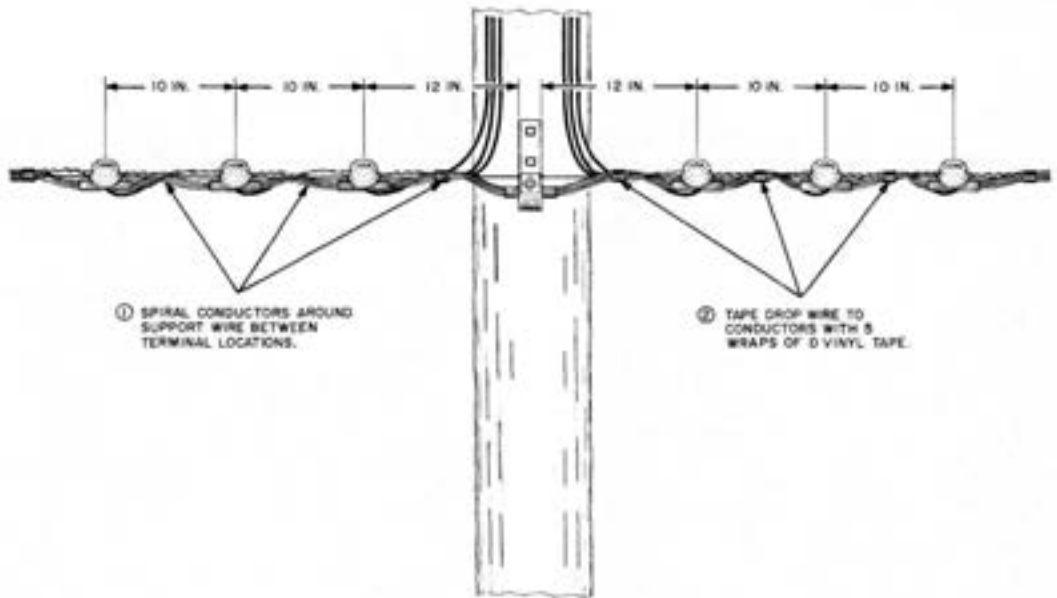

Fig. 14—Arrangement of Wire Terminals
8.06 A maximum of three wire terminals can be mounted on each side of the wire bracket. A complete installation is shown in Fig. 14, although individual terminals are added only as needed.